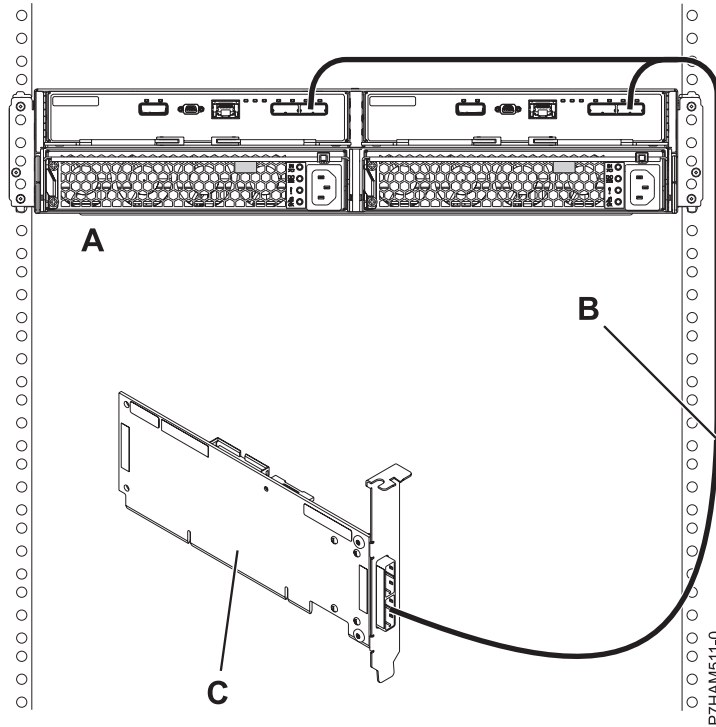

Figure 35. Mode 1 connection of one 58/87 disk drive enclosure by using a YO cable to a single SAS adapter
8. Perform the mode 1 connection of one 58/87 disk drive enclosure (**A**) by using a YO cable (**B**) to a single SAS adapter (**C**) as shown in Figure 35 on page 66.